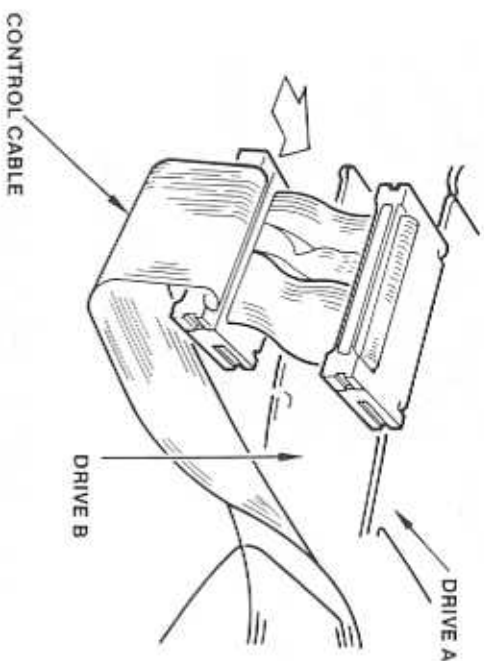

Figure 11-12. Diskette Control Cable
2. Attach the wide control cable connector to drive B (Figure 11-12).